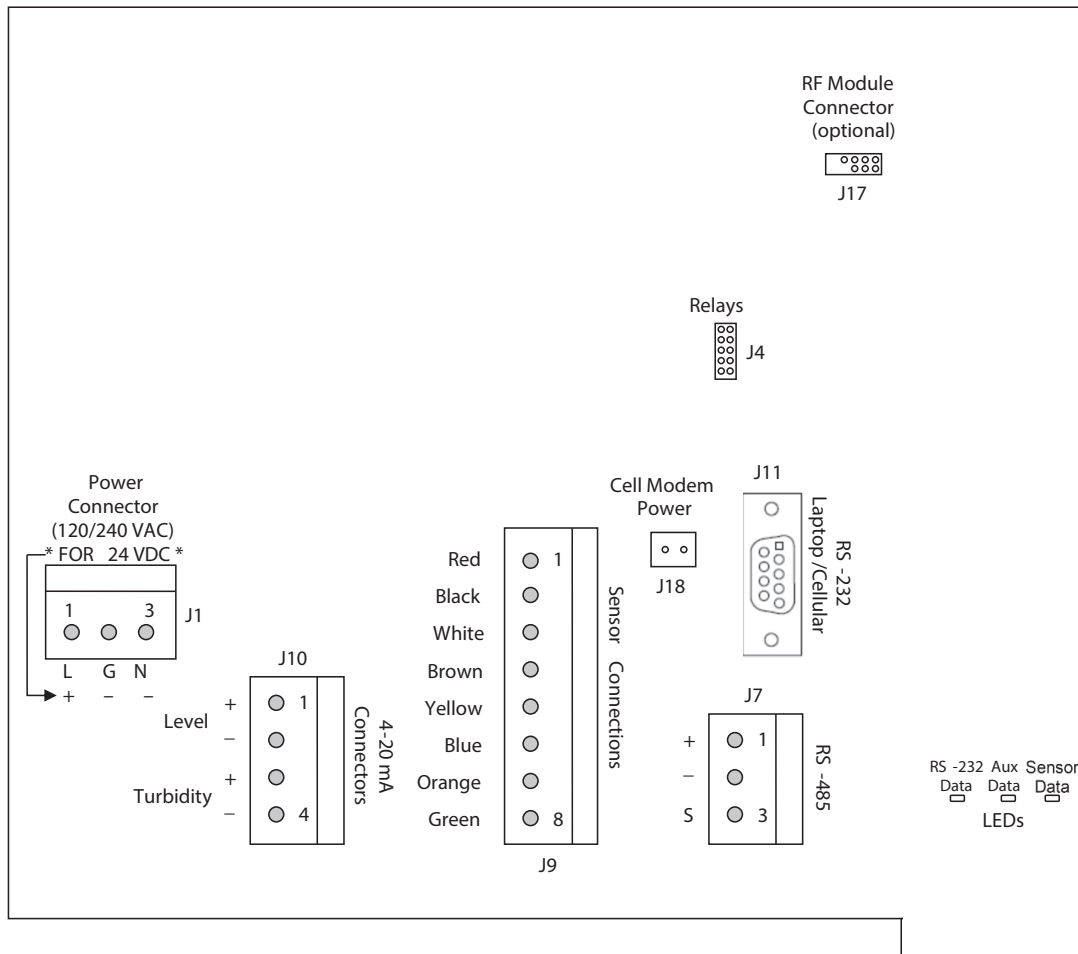

Figure 3: Controller connections
- The ESC circuit board contains four screw-terminal connectors as well as additional plug-in connectors (see Figure 3). To prevent damage, do not over-tighten the screw terminals.
- Connect sensors (ESS) to the controller by color (see Figure 3).